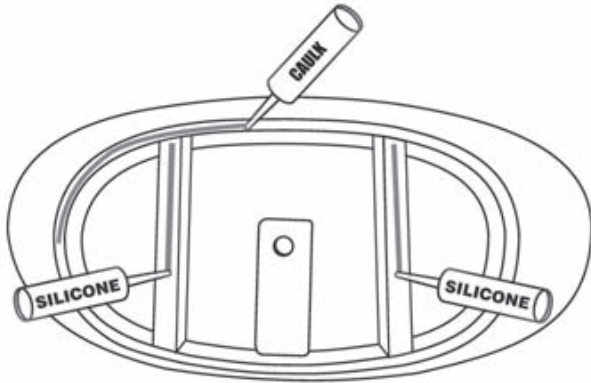

Figure 6
1. Apply a generous bead of adhesive or silicone to the bottom of the tub supports (figure 6).
2. Then apply a bead of tub and tile caulk around the edge of the base (figure 6)